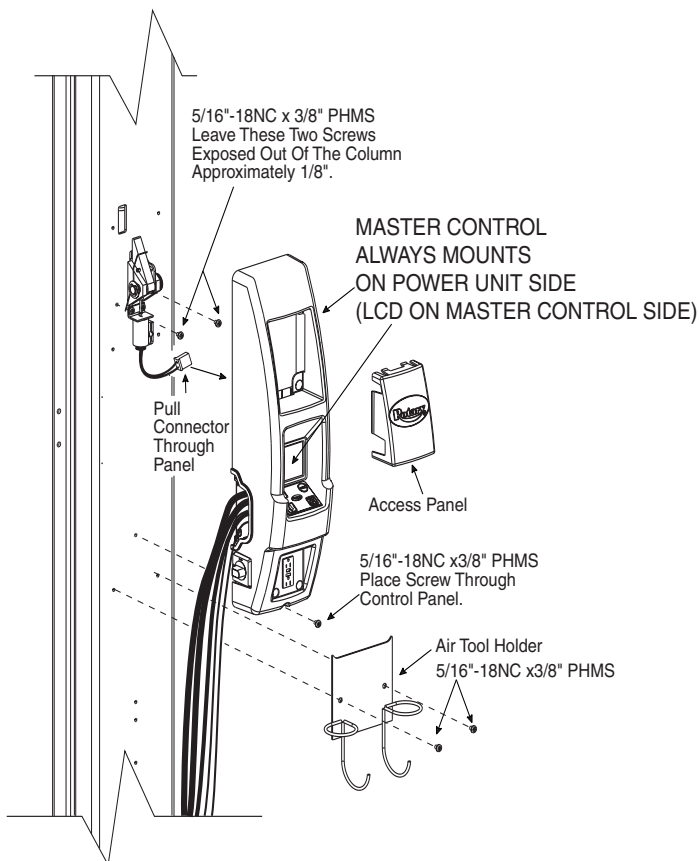

Fig. 16
- C) **Installing Master Control Panel & Tool Holder:** Remove access panel from the master control panel (master control panel is the one with LCD screen), Fig. 16. Install two 5/16"-18NC x 3/8" PHMS screws in holes on each side of the locking latch (power unit side) leaving approximately 1/8" exposed to hold the panel. Hang the master control panel over locking latch to column on the 5/16"-18NC x 3/8" PHMS screws and pull the locking latch solenoid wire through the panel, Fig. 16. Plug locking latch solenoid into master control panel. Install one 5/16"-18NC x 3/8" PHMS in bottom of master control panel. Tighten the upper two screws in top of panel and replace access panel. Install one of the air tool holders under the master control panel with two 5/16"-18NC x 3/8" PHMS, see Fig. 16.